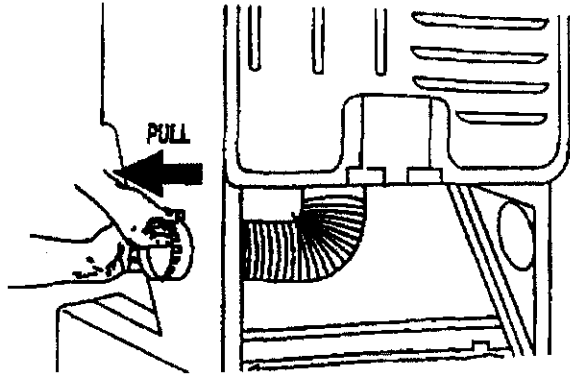

Fig. 9
4. Preform the flex pipe to the left or right. Pull the flexpipe through the knockout opening until the clip "snaps" into place. (Fig. 9)